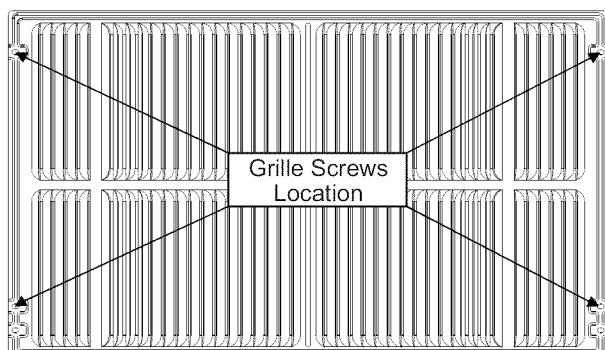

Fig. 2
4. If the unit has not been pre-drilled (some models), carefully drill 4 – 1/8" holes through the grille and into the side flange of the unit approximately 1 ½ " to 2 " from the top and bottom as in Fig. 2, 3 .